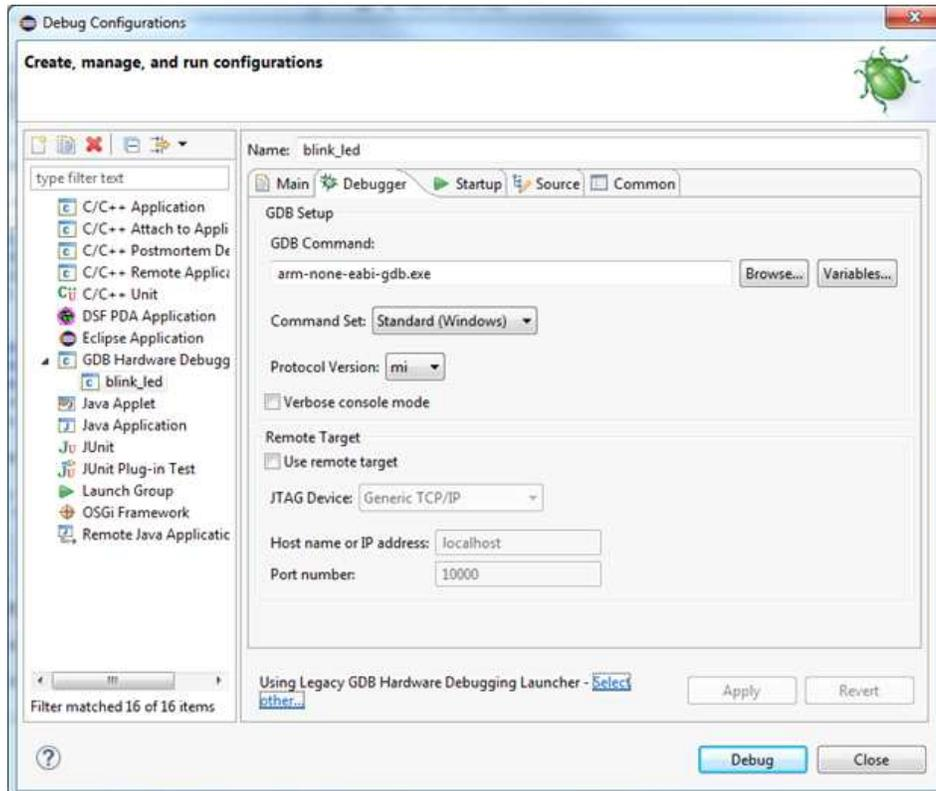

Figure 12. Using Legacy GDB Hardware Debugger Launcher
6. Select the 'Debugger' tab again. The settings should now be as seen in Figure 12.